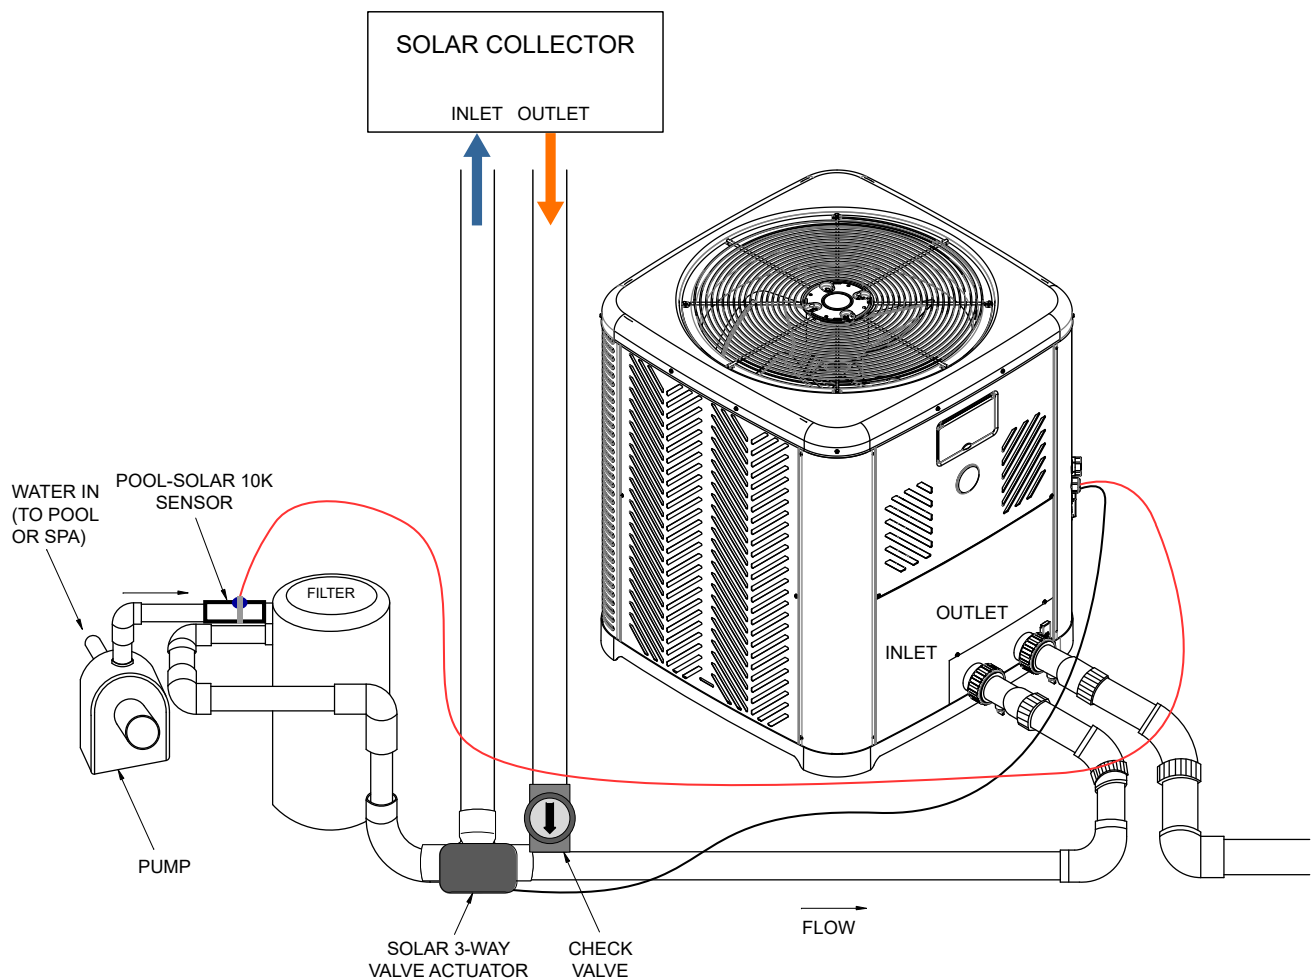

Figure 156. Solar Heater Components in the Piping
3. Install a "check valve" at the outlet of the solar heater to prevent backflow to the solar collector. See **Figure 156**.